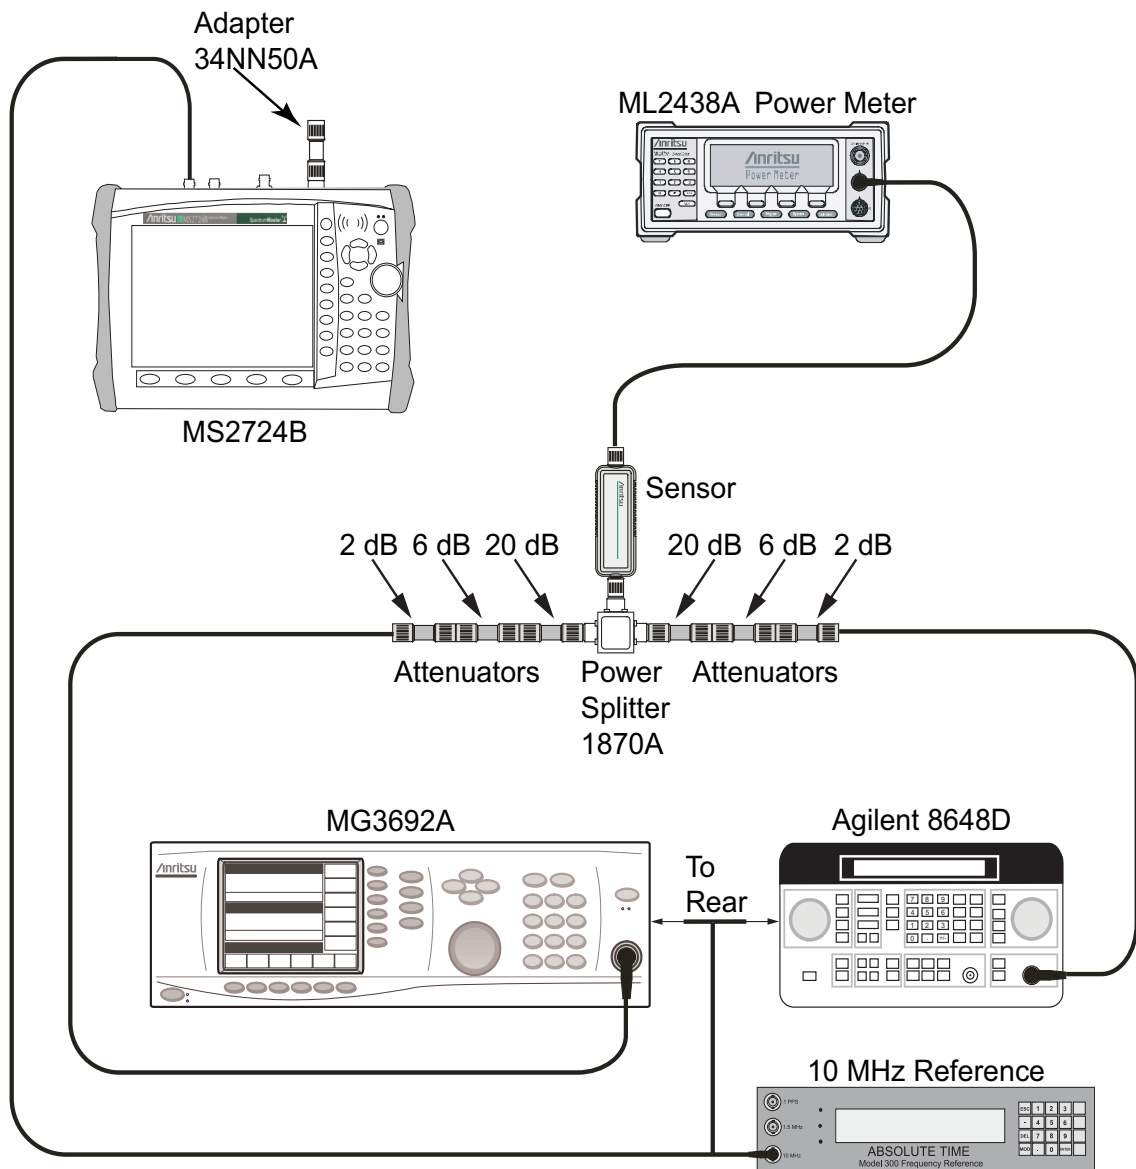

Figure 2-5. 2400 MHz TOI Verification - Characterization – Component Characterization Setup
1. Connect the equipment as shown in Figure 2-5, “2400 MHz TOI Verification - Characterization – Component Characterization Setup” on page 2-11. The splitter will be used as an RF combiner (the normal RF outputs will become inputs, and the normal input will become the RF output).